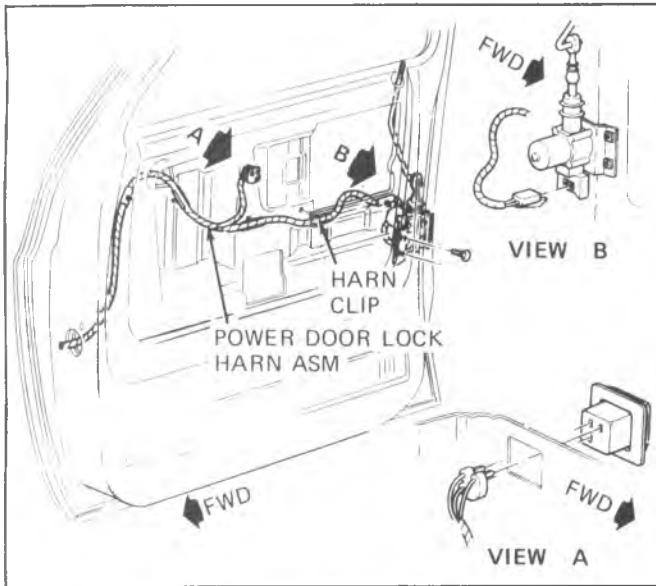

Fig. 2D-39--Power Door Lock Assembly
**POWER DOOR LOCKS - CK MODELS (Fig. 2D-39)**